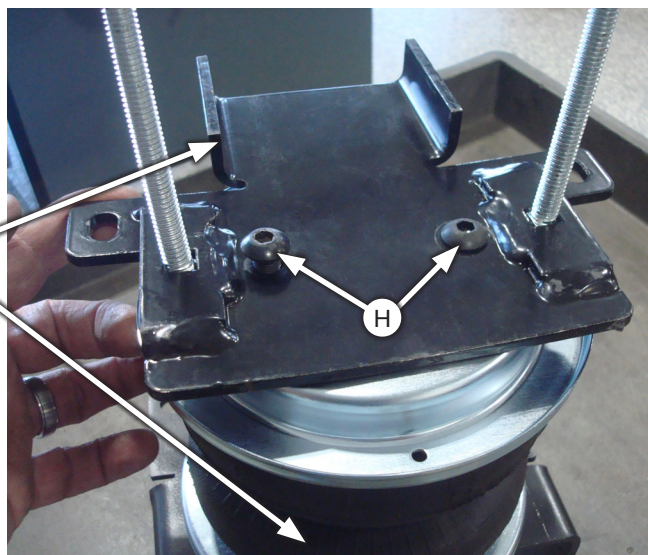

Fig. 11
4. Set a roll plate (F) and the lower bracket with the carriage bolts inserted, onto the bottom of the air spring assembly and attach with the button-head cap screws (H) (Fig. 11). Torque to no more than 20 lb.-ft. (27Nm).